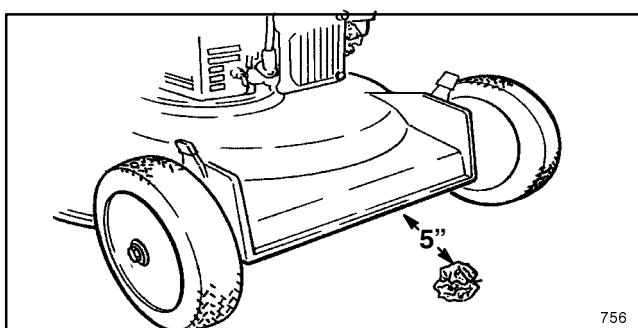

Figure 6
4. Take a half sheet of newspaper and crumple it into a ball small enough to go under the deck (approx. three inches in diameter) (Fig. 6).
5. Place ball of newspaper five inches in front of mower (Fig. 6).